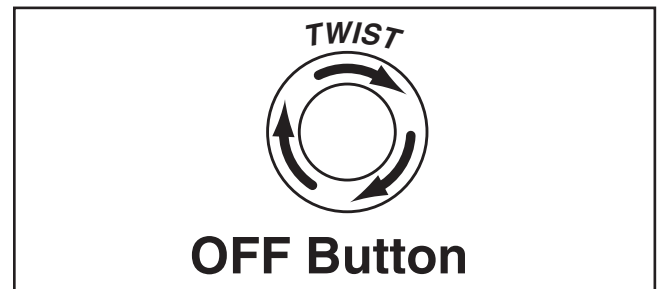

Figure 9. Resetting the switch.
5. Twist the OFF button clockwise so it pops out. When the OFF button pops out, the switch is reset and ready for operation (see **Figure 9**).